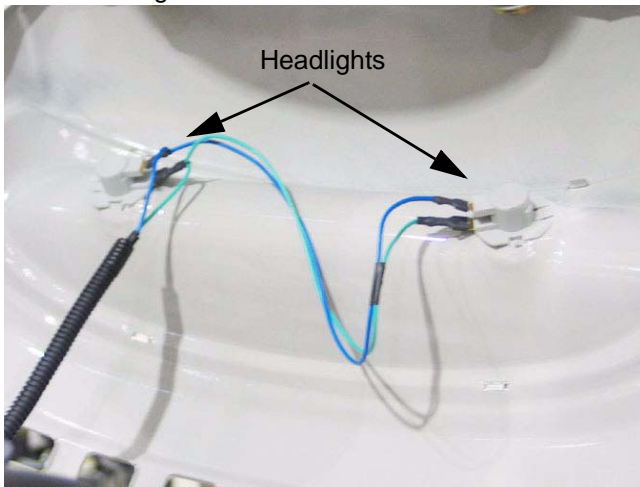

Figure 39.11
39.11. The **lighting circuit** is hot whenever the engine is running. It does not draw from the battery, but runs directly off its own circuit on the alternator. See Figure 39.11.